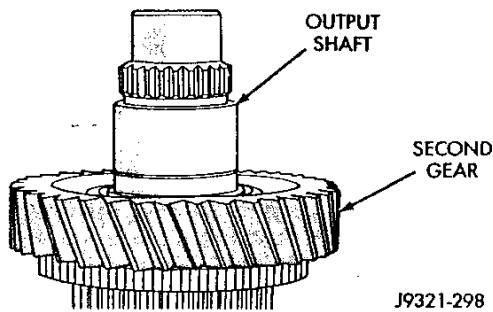

Fig. 36 Second Gear Installation
(3) Install bearing in second gear and install second gear on output shaft (Fig. 36).